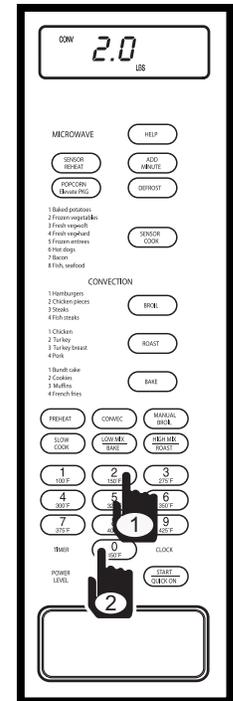

Figure 3-96.
3. Press the number 2 key and number 0 key, “2.0 - NO FOOD - IN OVEN - FOR - MEDIUM - PRESS - START - OR - FOR - DONE - NESS - OPTIONS - PRESS - POWER - LEVEL” will flash on the display. (See Figure 3-96)